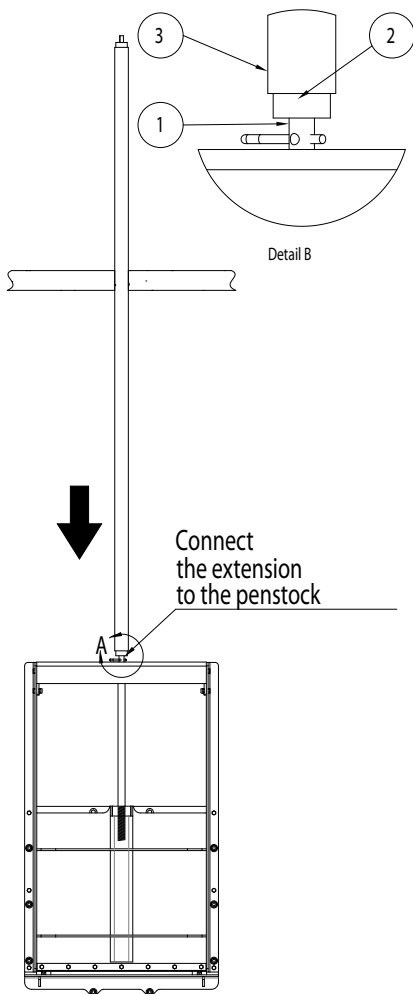

Figure 9
1. Connect the stem extension (item 3) to the shaft (item 1) on top of the yoke (see Figure 9 and Detail B).